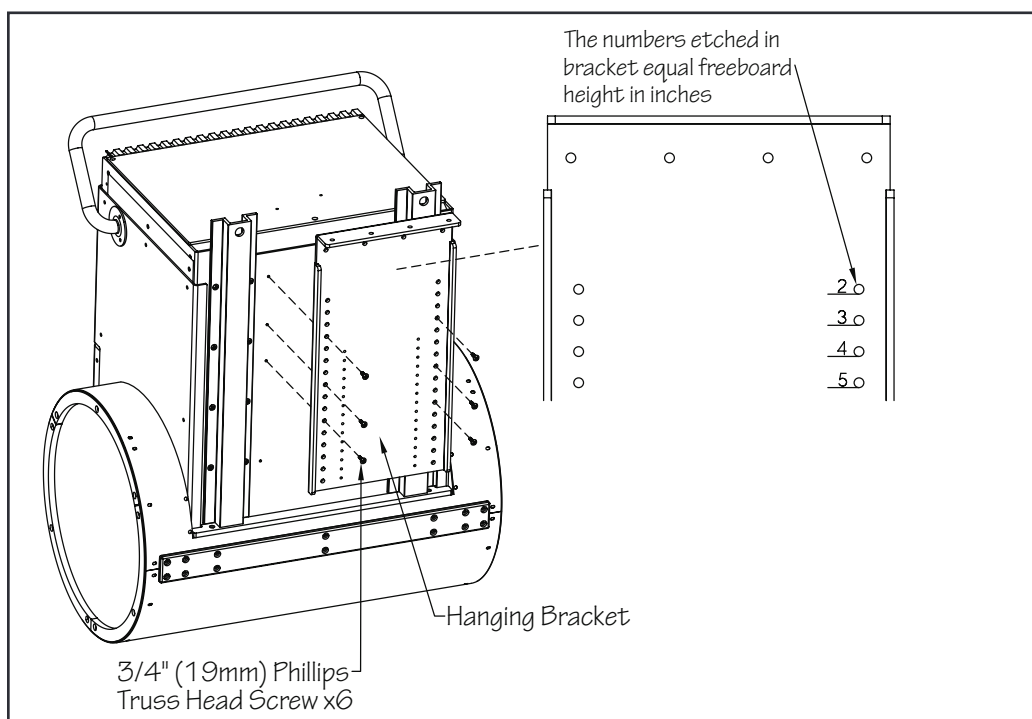

Fig. 9.2
9.2 Carefully lay the Fastlane Pro down on its front face. There are six pre-drilled holes in the center of the housing assembly between the hat sections. Align the top set of holes with the appropriate number hole in the hanger bracket (if the freeboard is 5" (12,7cm) then align the #5 holes with the top holes in the housing). When the hanger bracket is positioned on the housing, use the provided 3/4" (19mm) screws to attach (Fig. 9.2).